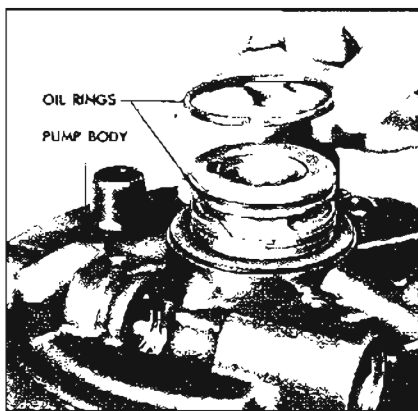

Figure 5-583
9. Remove the hook type oil rings from the pump cover. See Figure 5-583.